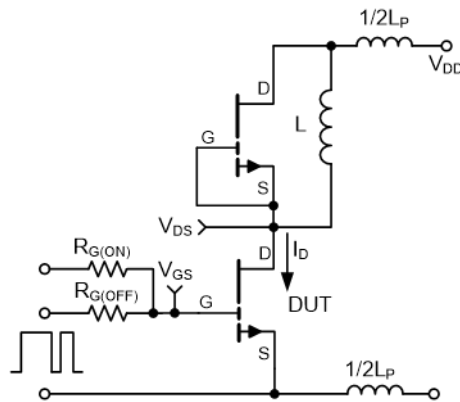

Figure 13: GS66508B Switching Loss Test Circuit
(8) See Figure 13 for switching test circuit